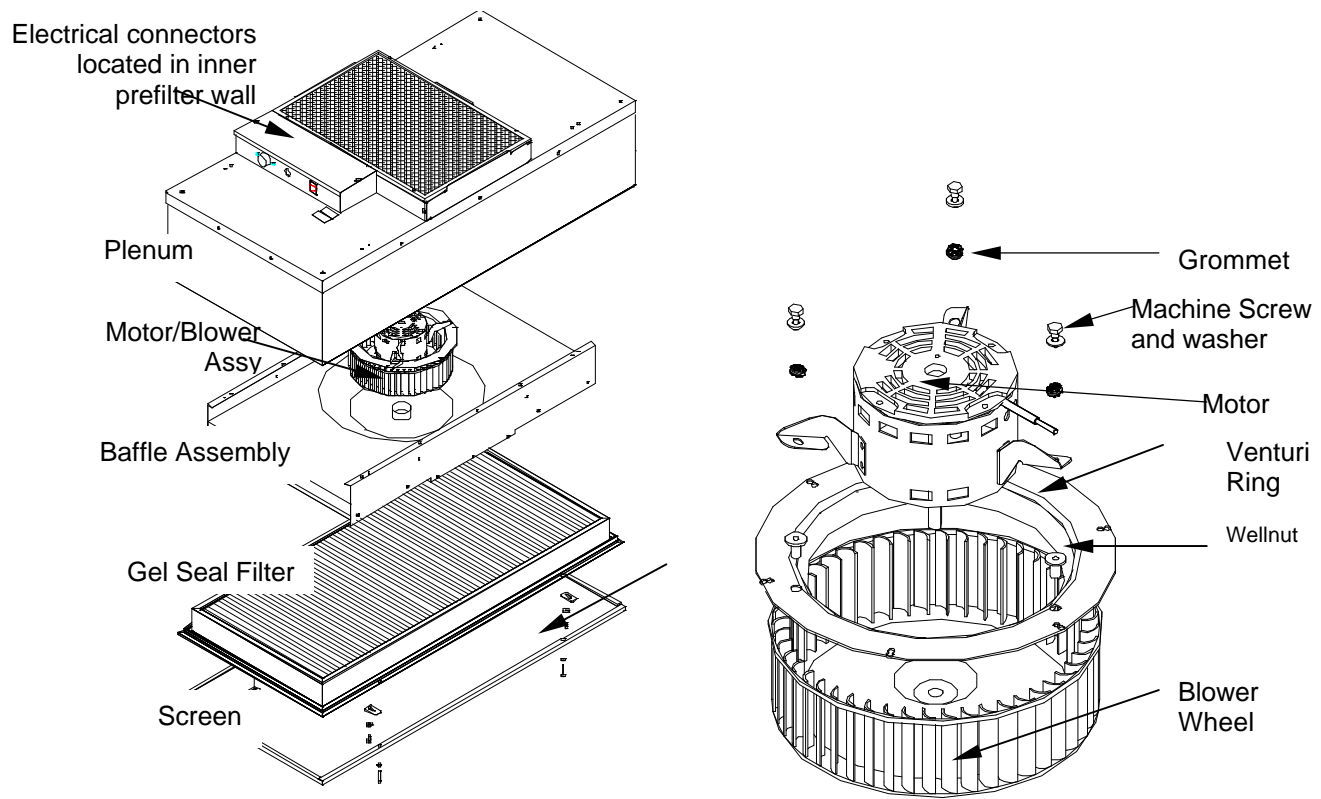

Figure 7 – RSRE Motor Replacement
- Step 2.** While supporting the baffle assembly from below, remove the four corner screws on the baffle assembly and lower the assembly. (See Figure 7)